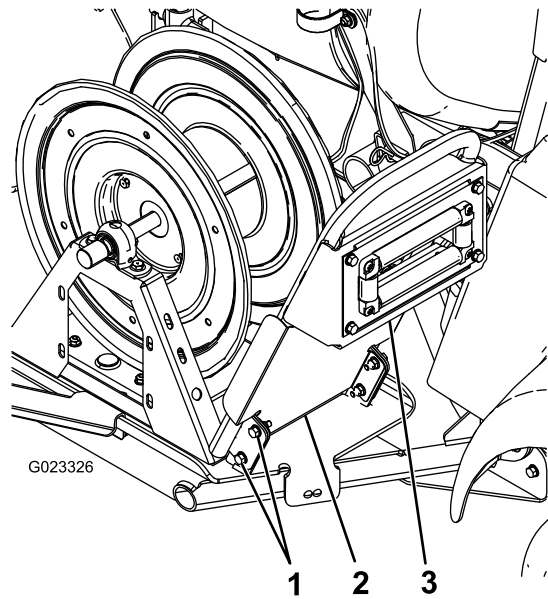

Figure 8
5. Loosely mount the handle to the swivel plate with 4 bolts (5/16 inch) (Figure 8).
6. Attach the mud shield and handle to the swivel plate using the bolts installed in step 5 and 4 flange nuts (5/16 inch) (Figure 8).